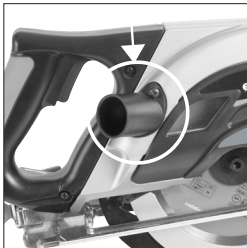

Fig. 11
- Fit the Discharge Port Exhaust in place of the blanking cover. **(Fig.11)**